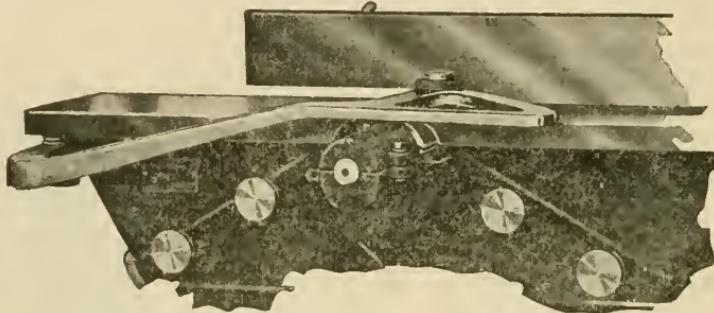

FIG. 3--JOINTER WITH FLAP GUARD.
6. GENERAL-- The jointer, Fig. 3, also called buzz planer, may be used for quite a wide range of work if properly manipulated. Its original purpose was to plane a working face or to take wind out